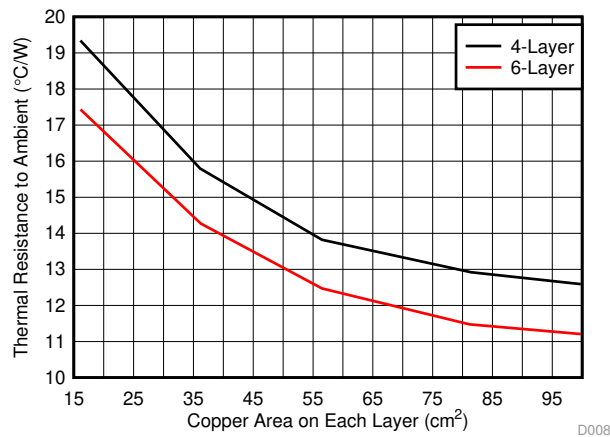

Figure 2. Thermal Resistance Versus PCB Copper Area for LMZM33606
The thermal resistance to the ambient environment depends on the PCB copper area. Step 3 is to estimate the required copper area to achieve the necessary thermal resistance from step 2. This is done directly from the provided plots of package thermal resistance versus board area, such as Figure 2.
2. Consider the power dissipation P_D from step 1. The maximum junction temperature T_{J_MAX} for this module is 125°C. Consider an application with $T_{AMB_MAX} = 80$ °C. Using $P_D = 3.2$ W, $T_{J_MAX} = 125$ °C, $T_{AMB_MAX} = 80$ °C, equation (2) above suggests that the maximum allowed package thermal resistance R_{θ} to the ambient for this application is 14°C/W.
3. Looking at Figure 2, to achieve 14°C/W of thermal resistance the estimated board copper area must be at least 55 cm² if using a 4-layer board.